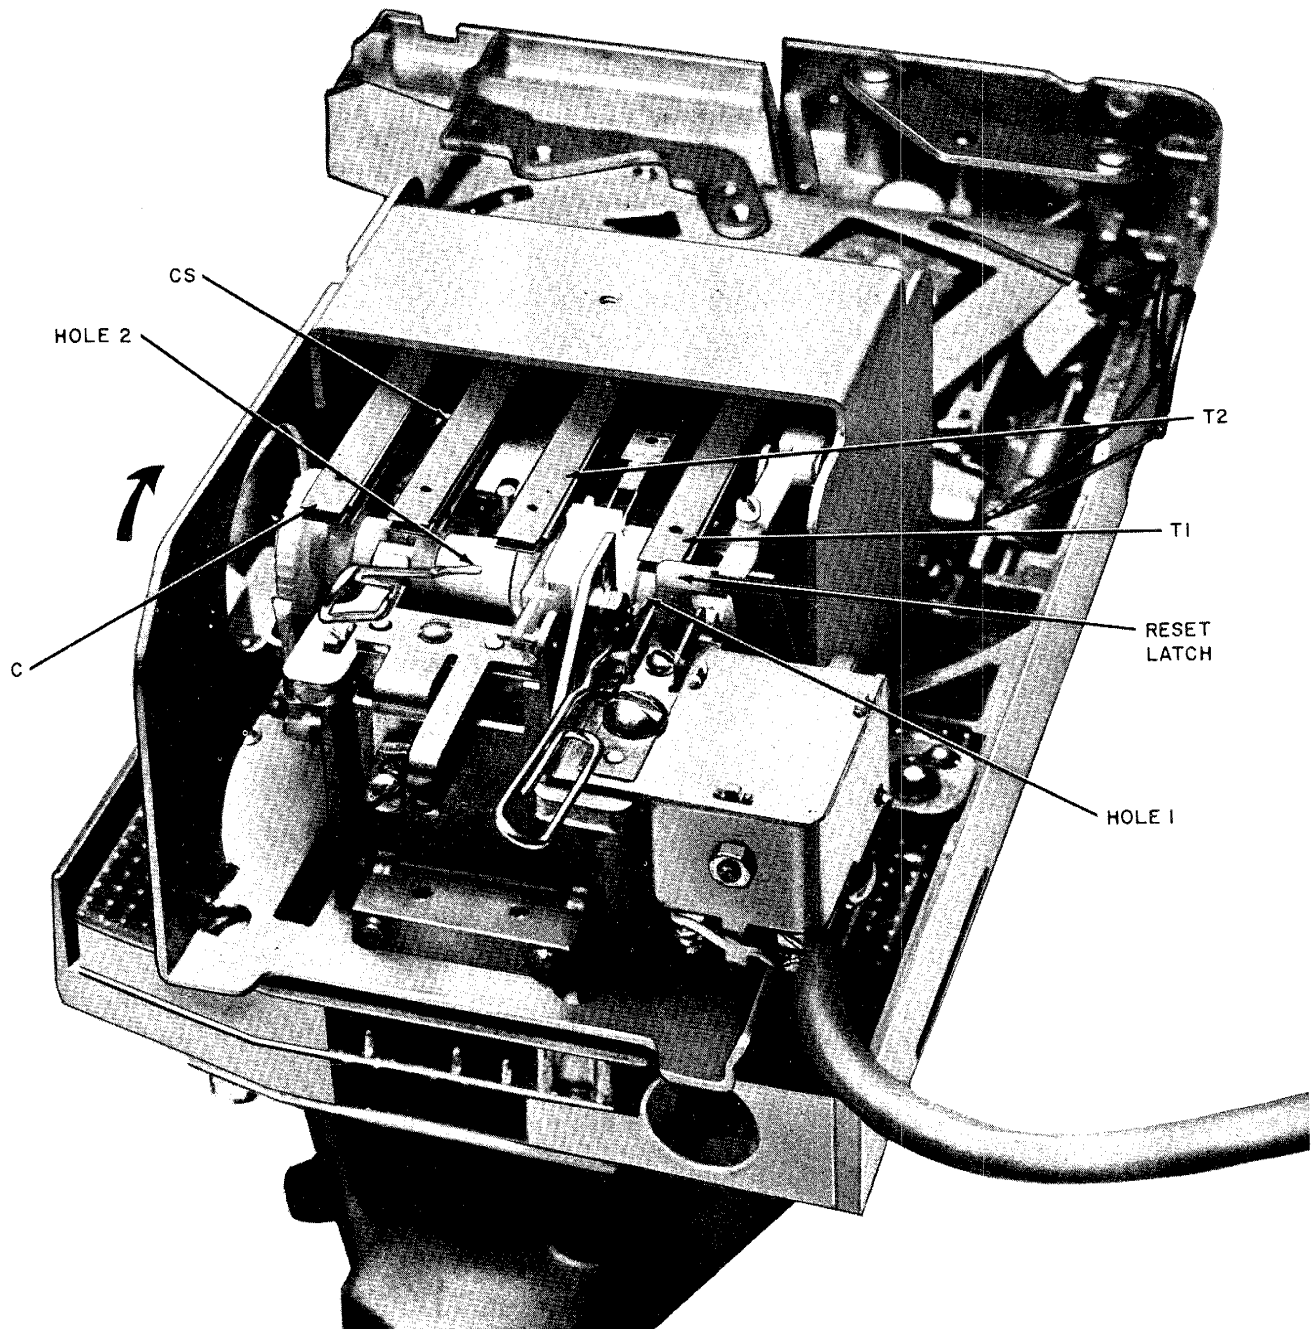

Fig. 10—Setting Totalizer Rate
*Use extreme care when resetting totalizer. Avoid damaging pawl and spring pile-ups. Do not attempt to turn totalizer cam shaft in direction opposite that shown in Fig. 10.*
- (2) Rotate totalizer shaft in proper direction (from bottom to top) until springs T2 (Fig. 10) rest in depression in shaft as indicated by movement of springs.
- (3) Depress reset latch (Fig. 10) toward bottom of totalizer.
- (4) Rotate shaft in proper direction until contacts T1 operate as indicated by an upward movement of the reset latch.
- (5) Do not allow shaft to move. Insert one KS-16750, List 2 releaser or paper clip into hole 1 (Fig. 10) located near right-hand end of shaft. Take care not to disturb contact springs.
- (6) Hold the paper clip firmly so that right-hand end of shaft cannot move.
- (7) Insert the second releaser or paper clip into one of four holes indicated as hole 2 in center of shaft (Fig. 10). Do not allow end of releaser or clip to extend too far beyond shaft; this may damage insulation of coil located directly beneath shaft.
- (8) Rotate second releaser or clip in proper direction until springs T2 come to rest in depression in shaft. This is zero rate position. Do not remove releasers or clips from holes in shaft.
- (9) Set desired charge rate by further rotating shaft in proper direction according to Table B.
- (10) Remove releasers or paper clips.